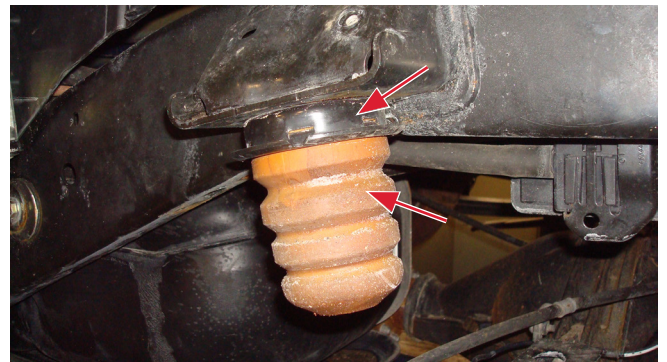

Fig. 3
2. Remove the jounce bumper (if equipped) from the mounting cup and unbolt the mounting cup from the jounce bumper mounting bracket, welded to the frame (Fig. 3). Discard jounce bumper and mounting cup.